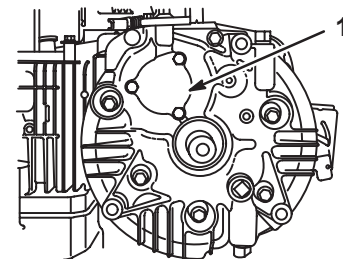

Fig. 112 – Removing Pump Cover
2. Remove three screws and remove pump cover and "O" ring, Figs. 112 and 113.